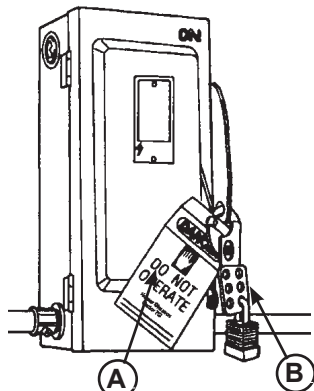

Figure 18
When working with electrical or electronic controls, make sure that the power source has been tagged (A) and locked out (B) according to OSHA regulations and approved local electrical codes (see Figure 18).